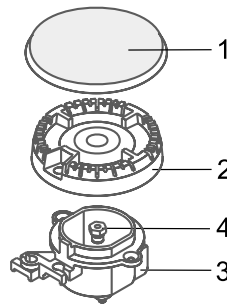

Fig. 18 Burner elements
- To clean the burner take off the burner covers and heads (Fig. 18) then soak them in luke-warm water with the addition of washing liquid, next wash each part.